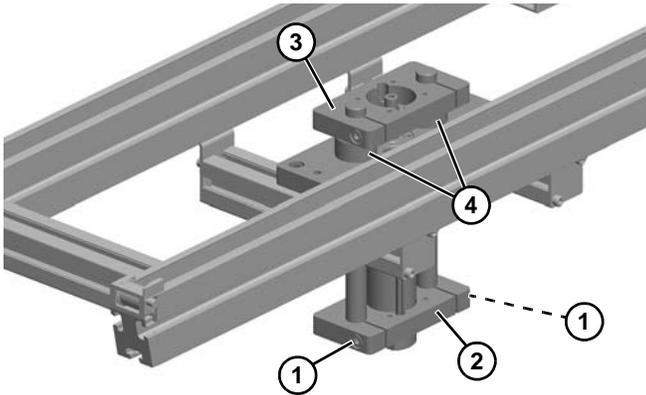

Figure 126
- Loosen socket head screws (**Figure 126, item 1**) and remove bottom plate (**Figure 126, item 2**).
- Remove top plate with shafts (**Figure 126, item 3**) from bearings (**Figure 126, item 4**).